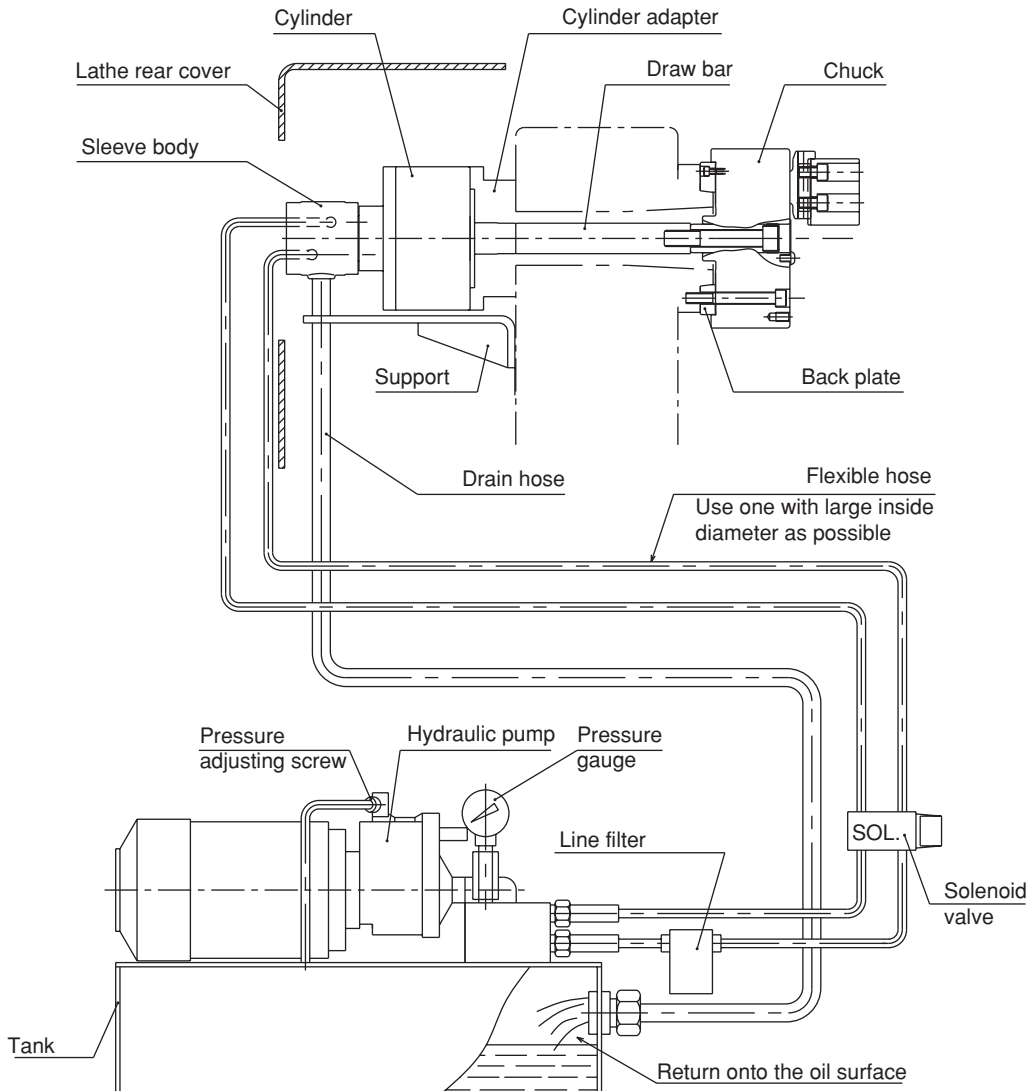

Fig. 17
- The end of the hose is physically above the oil level. (Refer to Fig.17)